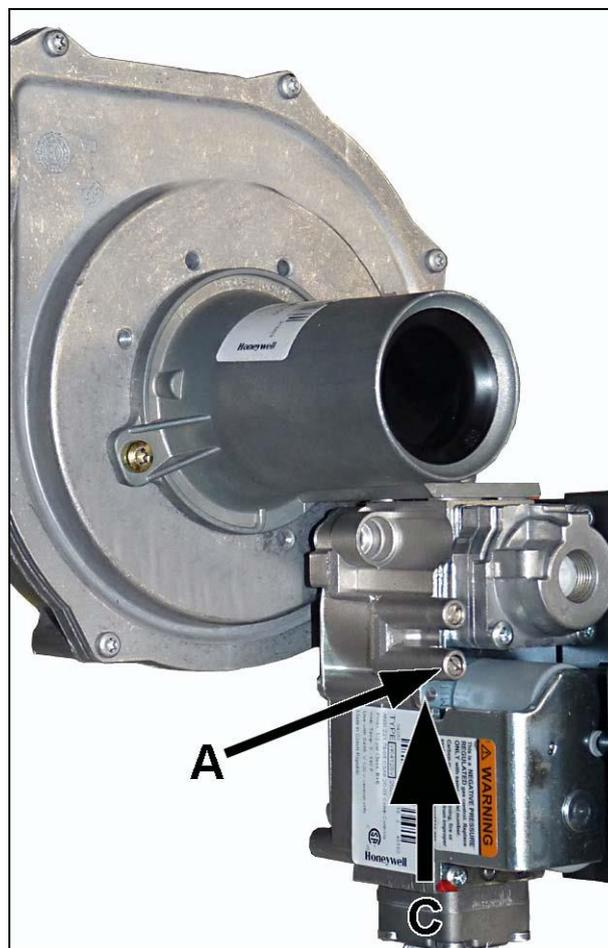

Fig. 6.4
**Gas supply pressure control (Fig. 6.4)**
**BE SURE TO TIGHTEN THE PRESSURE OUTLET SCREW (A/Fig. 6.4).**